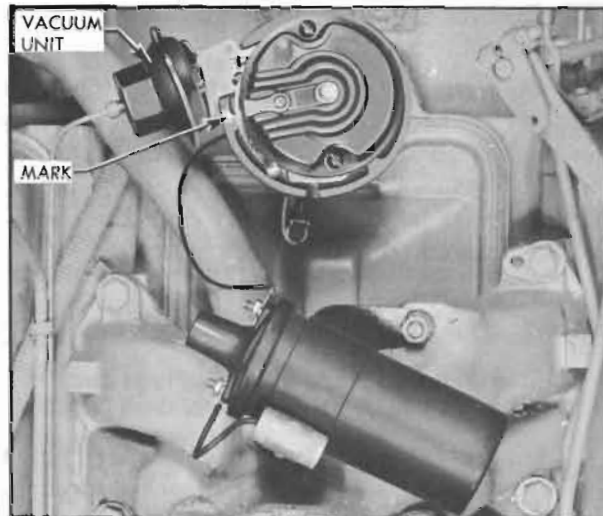

Figure 10-44—Installing Distributor in Engine
2. Install distributor in engine with rotor in position to fire No. 1 cylinder and with vacuum control in position to connect vacuum pipe. See figure 10-44. Install distributor clamp and bolt with lock washer, leaving bolt just loose enough to permit movement of distributor with heavy hand pressure. *NOTE: If distributor does not seat in engine block, press down lightly on distributor while cranking engine with starter. After distributor tang snaps into slot in oil pump shaft, start timing again from step 1, leaving distributor installed.*
2. Make a mark on distributor base in line with rotor. Then carefully note the location of the vacuum unit in relation to engine so that the distributor can be replaced in the exact same position after it is serviced. See figure 10-44. **CAUTION:** *If engine is turned over while distributor is out, complete ignition timing procedure must be followed (par. 10-41).*